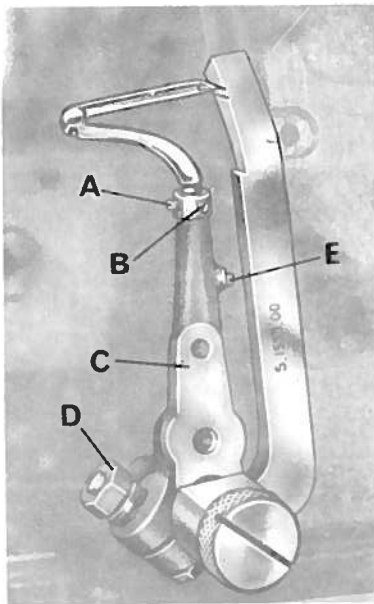

fig. 4
- S. 1665.00 for all operations except No. 4 (fig. 4)
- S. 1555.00 for operation No. 4 (fig. 4)
4. Setting lower looper (fig. 4).
- Firmly tighten screw 'E' (fig. 4).